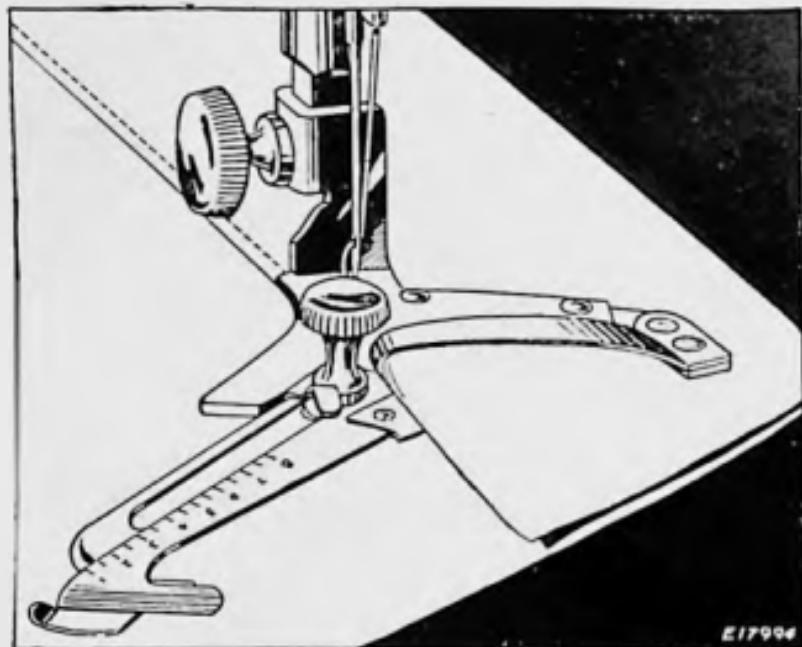

FIG. 43. SHOWING HOW ADJUSTABLE HEMMER IS USED FOR MAKING HEMS WIDER THAN 15/16 INCH
- (1) Loosen the thumb screw on the hemmer, move the scale to the right as far as it will go, then swing it toward you, as shown in **Fig. 43**, and tighten the thumb screw.
- (2) Fold and crease the desired width of hem.
- (3) Place the fold under the extension at the right of the hemmer and the edge into the folder, as shown in **Fig. 43**.
- (4) Draw the end of the hem back under the needle, lower the presser bar and commence to sew.
- (5) Guide the cloth to keep the hem flat.
Folded bias binding must be inserted in the slot or slots of corresponding sizes. See **Fig. 43**.